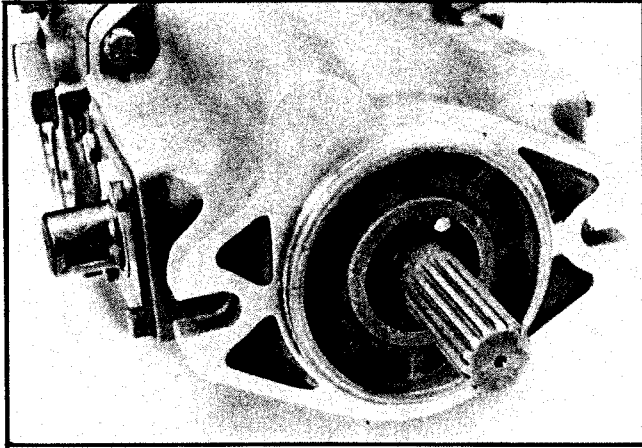

Figure 4. Transmission Pump Pilot Flange.
1. Direct Mounting - A pilot on the transmission pump mounting flange (Figure 4) assures correct mounting and shaft alignment. Make sure the pilot is firmly seated in the accessory pad of the power source. Care should be exercised in tightening the mounting screws to prevent misalignment.